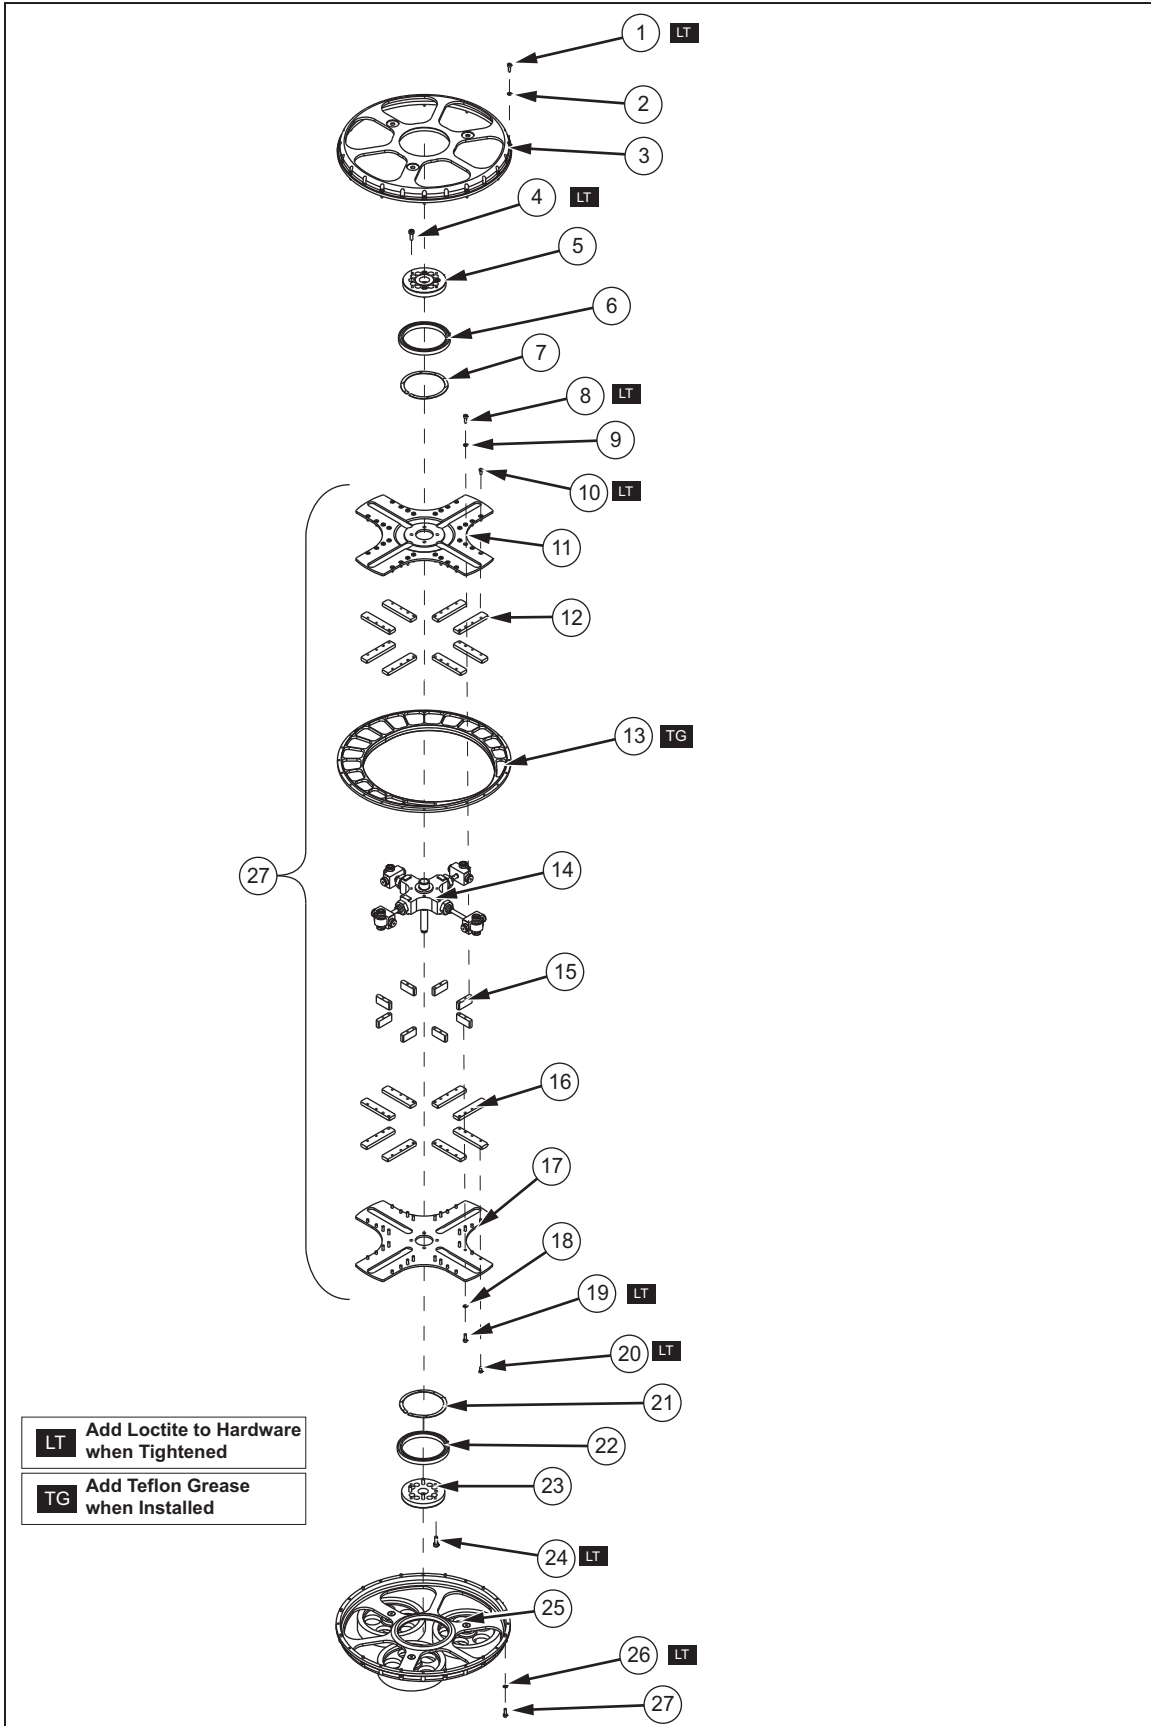

Figure 5-6. Cam Assembly Replacement
Use the following instructions and Figure 5-6 to disassemble the pump cam assembly:
Use the following instructions and Figure 5-6 to reassemble the pump cam assembly:
1. Position the piston guide rail spacers (15) on the lower piston guide plate (17) and secure them from the underside with 16 (two per spacer) socket head screws (19) and lock washers (18).
2. Place the ICM and shaft assembly (14) on the lower piston guide plate (17) with the pressure port shaft pointing down and away as shown in Figure 5-6. Be sure that it sits flat on the lower guide plate.
3. Flip the lower guide plate over and install the lower wave spring (21). The three "valleys" of the wave spring (the fourth valley is the break in the spring) should be resting on the piston guide plate and aligned halfway between each ICM. A thin film of Krytox grease should be applied to both sides of the spring.
4. Place the lower shaft bearing hub (23) on top of the wave spring and secure it with four 3 mm HEX screws (24). Torque to 20 in-lb (2.3 Nm) in a cross pattern to compress the spring evenly.
5. Flip the lower guide plate assembly back over and push the hub down into the lower cam mount plate and planetary gear assembly (25) until the hub is flush with the back surface of the cam mounting plate.
6. Place the cam (13) on top of the lower cam mount plate (25) while positioning each piston so they fit inside the cam. The top side of the cam is identified with a small milled oval slot on the far outside edge. The slot faces up and away from the lower cam mount plate and the planetary gears.
7. Secure the cam from the underside using twelve of the 2.5 mm HEX screws (26) and lock washers (25) using every-other slot.
8. Place the upper piston guide (11) over the top of the ICM and shaft assembly (14) and secure it to the piston guide rail spacers using sixteen 2.5 mm HEX screws (8) and lock washers (9).
Use the following instructions and Figures 5-6 and 5-9 to replace an ICM assembly (④).
3. Disassemble the pump cam to gain access to the ICM shaft assembly. The ICM shaft assembly must be removed from the lower piston guide plate (⑰) to give clearance for the removal of the piston and clevis assemblies.
4. Remove the lower piston guide plate (⑰) from the lower cam mount plate (⑳) by pulling it up and out. The lower shaft bearing hub (㉓) forms a tight fit with the bearing and might need to be pushed out if it can't be simply lifted. If so, grab the lower cam mount plate on the outside edges and gently tap down on the work bench against the pressure port shaft.
7. Remove the piston and clevis assembly (⑥) from the ICM assembly (④) by pulling it straight out from the ICM.
8. Remove the cylinder retaining nut (⑤) that holds the ICM assembly (④) in position.
9. Remove the ICM assembly (④) from the cylinder housing (⑦).